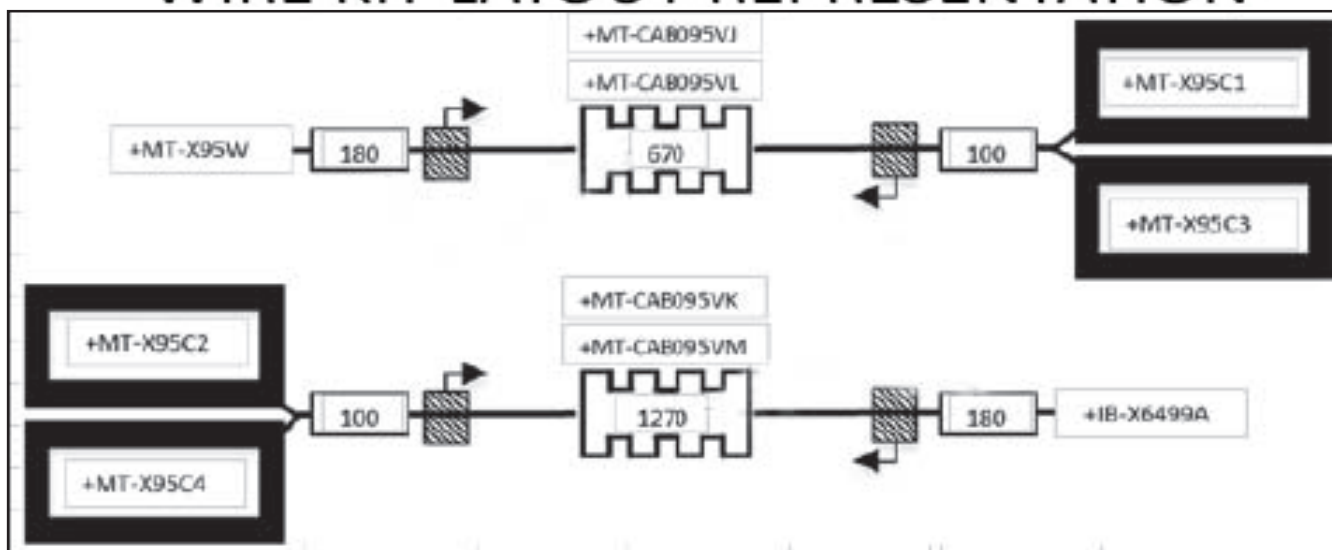

Figure 1 - Bypass Cable Wire Kit
1.1. Bypass cable wire kit N632000435 (see Figure 1).